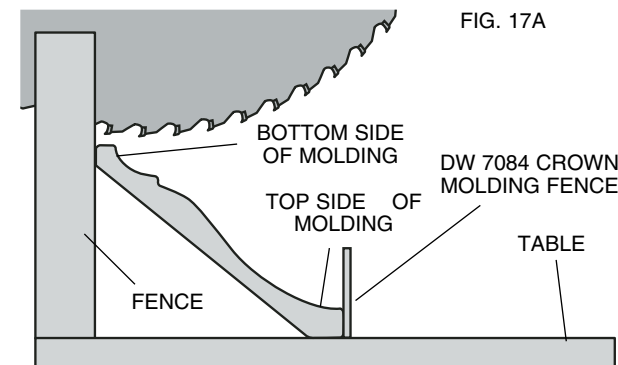

FIG. 17A
Place the molding on the table at an angle between the fence and the saw table, as shown in Figure 17A. Use of the crown molding fence accessory (DW7084) is highly recommended because of its degree of accuracy and convenience. The crown molding fence accessory is available for purchase from your local dealer.
1. Angle the molding so the bottom of the molding (part which goes against the wall when installed) is against the fence and the top of the molding is resting on the base of the saw, as shown in Figure 17A.